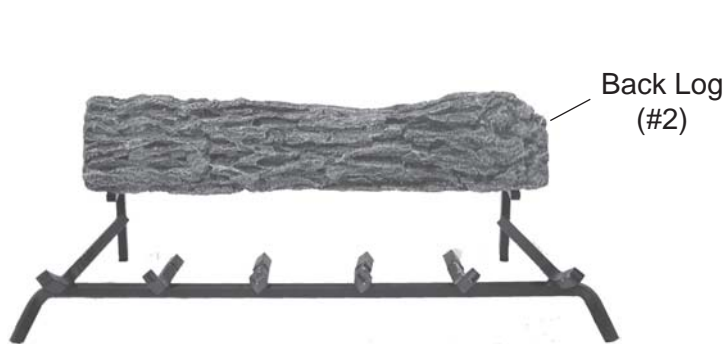

Figure 58 - Placing Back Log (#2) on Grate Bars on Back of Grate.
1. Place Back Log #2 on grate bars on back of grate. *See Figure 58.*